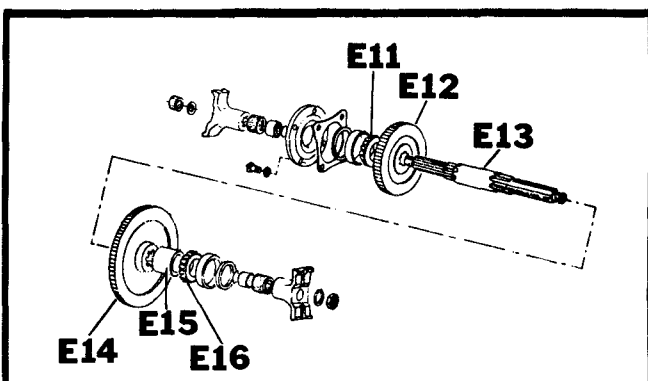

Figure 24
2. Slide gear (E-12) spacer (E-15) and gear (E-14) from output shaft (E-13) (Figure 24).